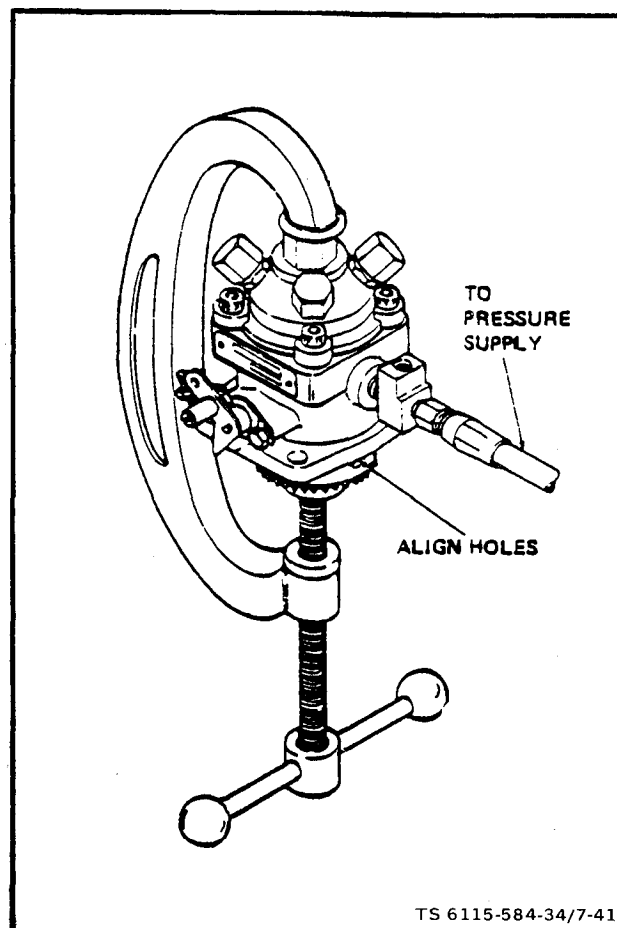
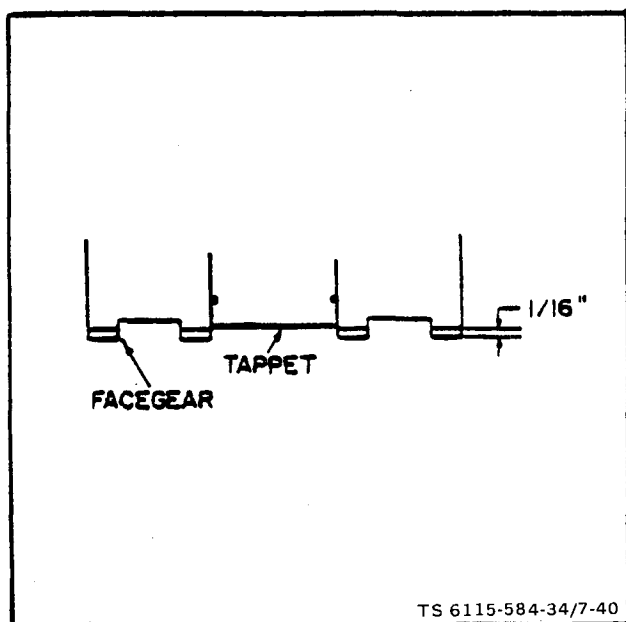

Figure 7-41. Pressure Testing Injection Pump
Figure 7-40. Checking Plunger Sleeve Alignment
(1) Turn pump upside down and depress tappet with thumb. Tappet should recede 1/16" into face gear (figure 7-40). If tappet cannot be depressed 1/16" into face gear, plunger sleeve pin (5, figure 7 -34) is improperly aligned. Disassemble pump and re-align pin.
(2) Remove the overflow valve assembly from the fuel outlet hole in the pump housing. Install a 1/4" pipe plug into the fuel outlet hole.
(3) Secure the pump close to a Nozzle Test Stand.
(4) Cap outlet ports (see figure 7-41).
(5) Install C-clamp on injection pumps as shown in figure 7-41 to retain face gear.
(6) Align holes in face gear and housing (see figure 7-41).
(7) Connect the Nozzle Test Stand to the fuel inlet hole in the pump housing.